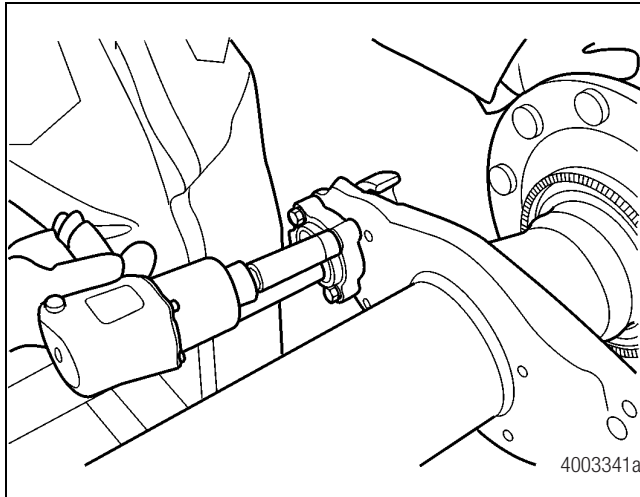

Figure 11.60
6. Tighten the four bolts to draw the bolt-on bushing housing into its seated position. Figure 11.60.